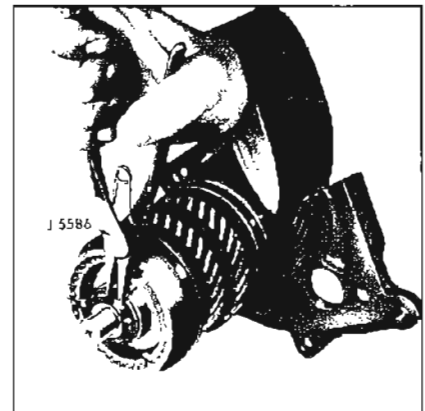

Figure 4-49—Removing Mainshaft Front Snap Ring
17. Remove mainshaft front snap ring (see Figure 4-49), and slide third and fourth speed clutch assembly, third speed gear and synchronizing ring, second and third speed gear thrust washer (needle roller bearing), second speed